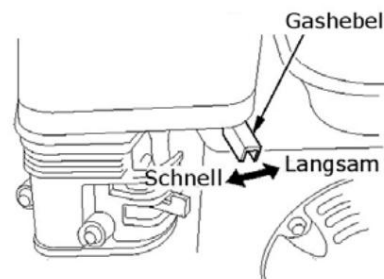

Fig. 19: Turn on the throttle
Step 1: Fully adjust the throttle (Fig. 19). right to "SLOW"